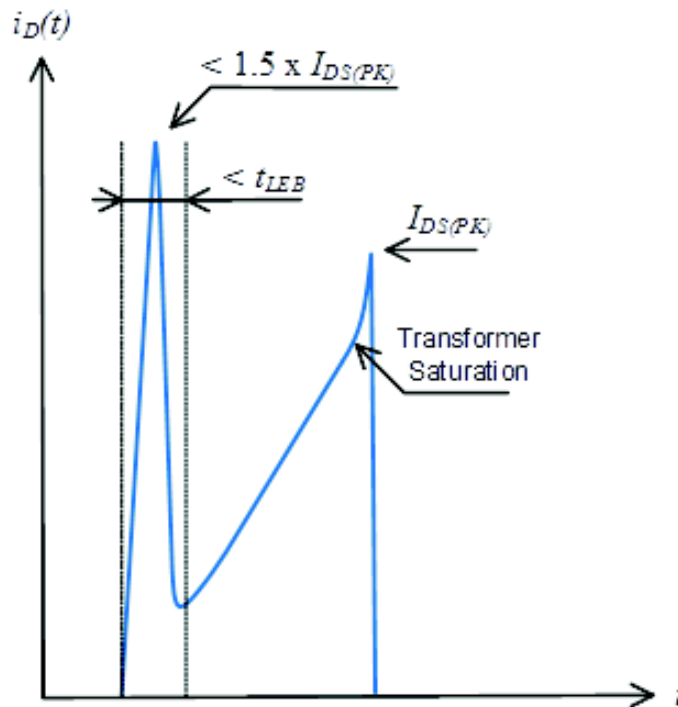

Figure 5. Spike Limits
2. Maximum drain current $I_{DS(PK)}$ is obtained when the transformer saturates. It should not be mixed with short pulses that can be seen at turn on. Figure 5 below provides spike limits the device can tolerate.